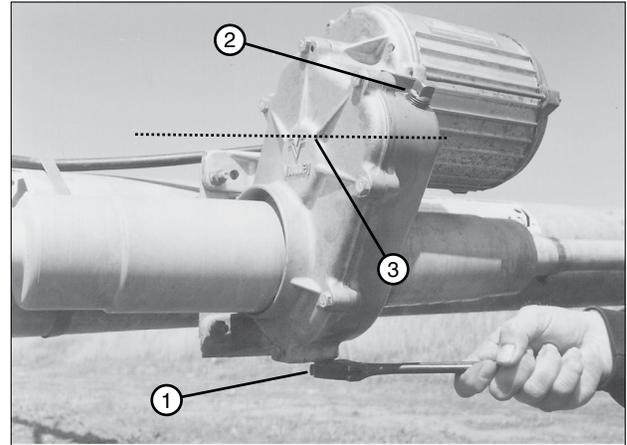

Figure 55-1 1. Drain Plug
1. Remove the drain plug and the fill plug. Drain the oil and install the drain plug. See figure 55-1.